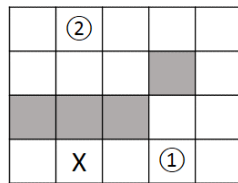

Figure 1: Initial position for sample input 1
Consider the example in Figure 1, where the gray cells represent walls, X is the target location and ①, ② mark the initial positions of two robots. One optimal solution consists of the six moves described below.